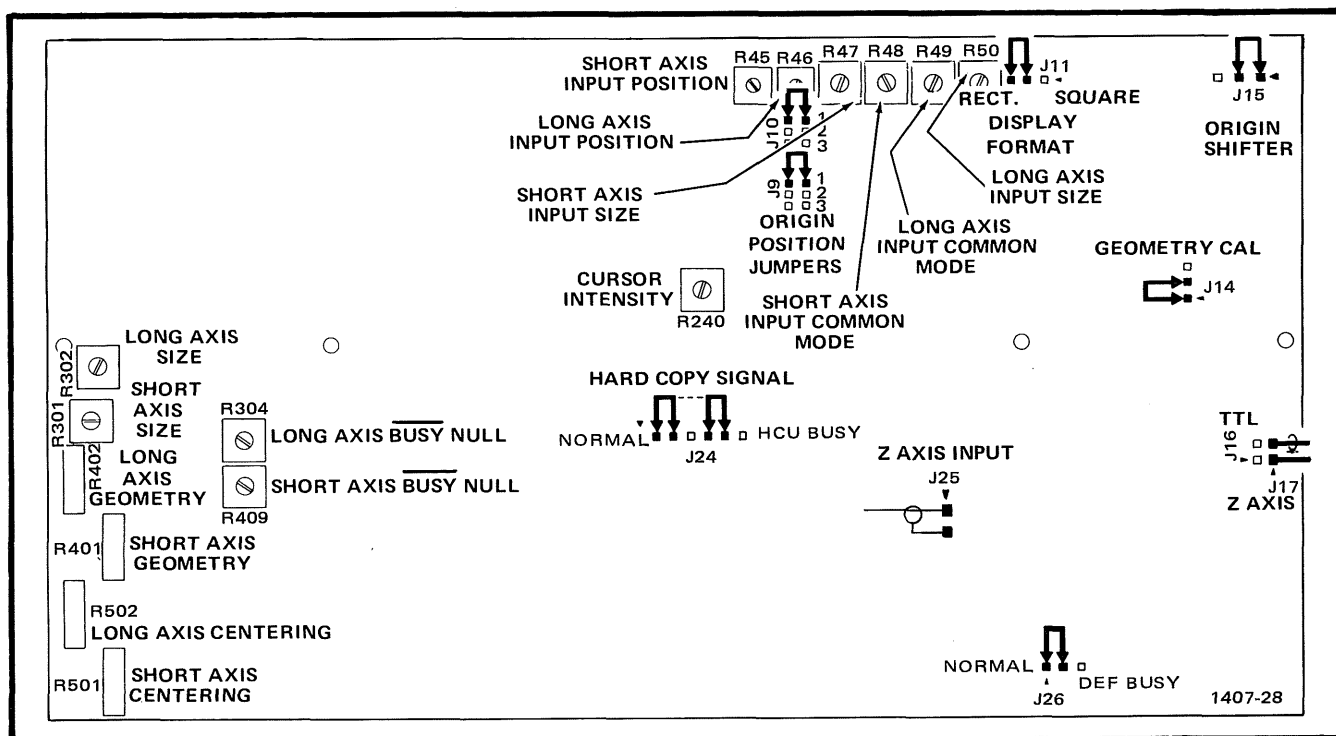

Fig. 1-4. Internal connection options located on the Deflection Amplifier Board. The 613 is shipped from the factory with the jumpers wired as shown above.
### Internal Connections (Fig. 1-4)
**RECTANGULAR-SQUARE FORMAT J11.** Fig. 1-4 shows the J11 jumper connected across pins 2 and 3, the normal connection for a rectangular (15 X 20 cm) display format. In the 613-1, pins 1 and 2 of J11 are normally connected to provide a square (15 X 15 cm) display format.
**GEOMETRY CALIBRATE J14.** As shown in Fig. 1-4, the J14 jumper is always connected across pins 1 and 2, except when Geometry is being adjusted as described in Section 3 Calibration, Step 11e.
**Z AXIS SELECTOR (Coaxial Cable).** With the coaxial cable connected as shown (to J17) in Fig. 1-4, Z-axis input is normal (a one-volt signal turns on the Z-axis Amplifier, and a 0.5-volt signal turns it off). In the TTL (alternate) position (J16), a TTL-logic low level enables the Z-axis Amplifier, and a TTL high shuts it off.
**ORIGIN SHIFTER J15.** Connected to pins 1 and 2 as shown in Fig. 1-4, the Origin Shifter moves the display trace origin in one-point increments on successive erasures. Disable during calibration by connecting to pins 2 and 3.
613 Busy Pin 7. A TTL "low" is present at this contact any time the 613 is in an erase interval, a hard copy is being made, or the 613 is in its settling time delay period. These last two functions are internal jumper options (see Fig. 1-4). The signal is used to notify associated equipment, such as a computer, that the 613 is in one of the above-named states.